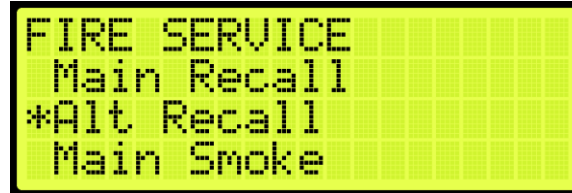

Figure 521: FIRE SERVICE Menu – Alt Recall
2. From the FIRE SERVICE menu, scroll and select Alt Recall (See Figure 521).